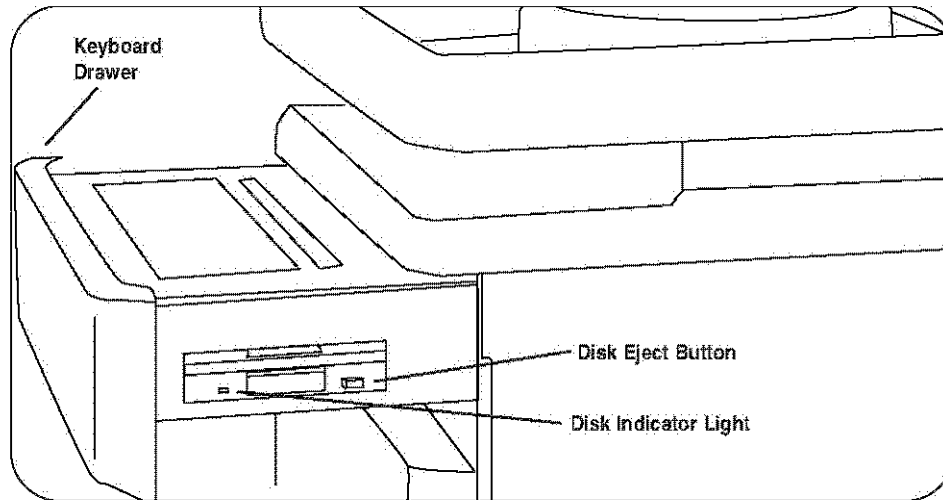

Figure 3-18: Floppy Disk Drive
1. Place the diskette into the floppy disk drive, located at the right side of the keyboard drawer (*figure 3-18*).
- To remove the diskette, press the DISK EJECT button (*figure 3-18*). Label the diskette with the name of the copied file.